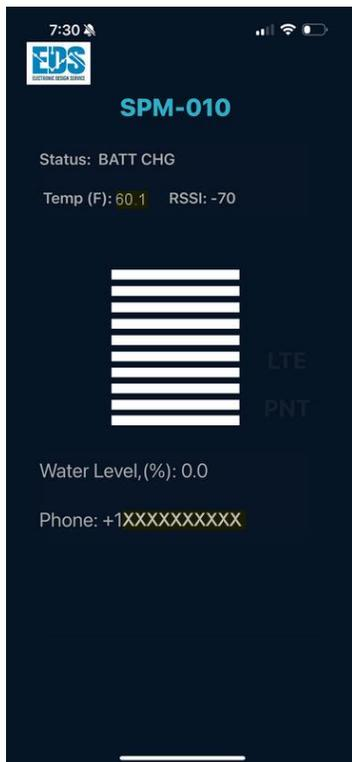

Figure 19 Message Phone number at start (SPM-010 example)
- See Figure 19: Confirmation Message on Startup
See Figure 19 & Figure 20 for app screen examples